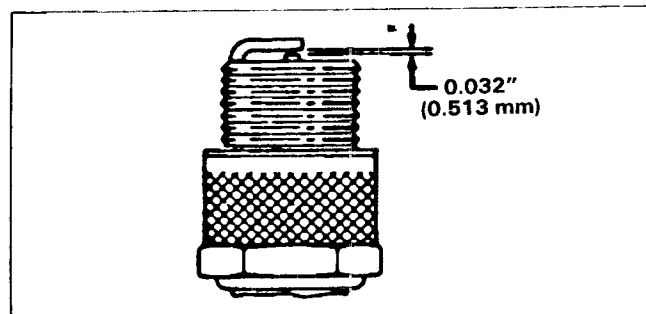

Figure 3
3. Set the air gap at 0.81 mm (0.032") as shown in Figure 3. Install correctly gapped spark plug and gasket seal. Tighten the plug firmly.